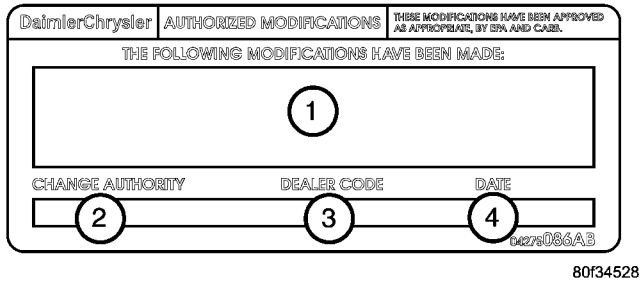

Fig. 2 AUTHORIZED MODIFICATION LABEL
4. Type the necessary information on the "Authorized Modification Label" p/n 04275086AB and attach near the VECI label (Fig. 2).